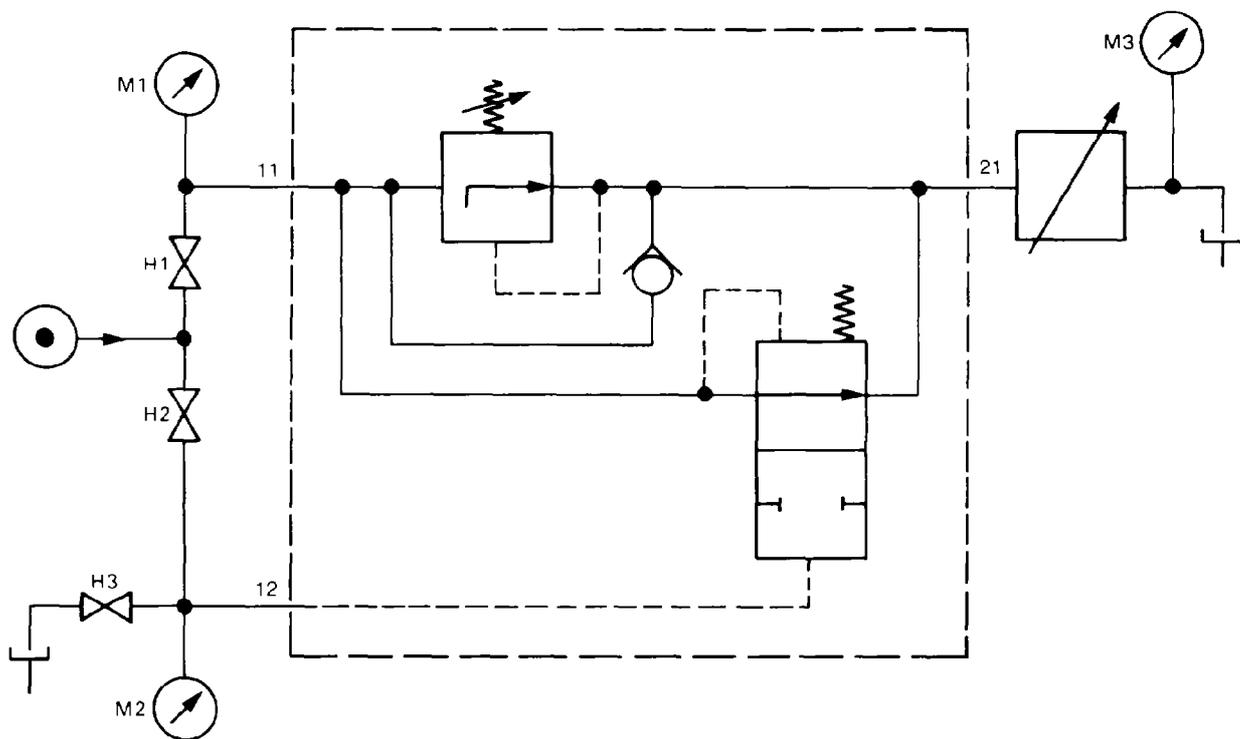

Figure 91 Test Connections
- (1) a throttle valve.
- (2) three isolator valves.
- (3) a spring balance (0-500 N),
- (4) a hydraulic pump (0-250 bar).
- b. Connect the valve and test equipment as shown in Fig 91; vent the equipment.